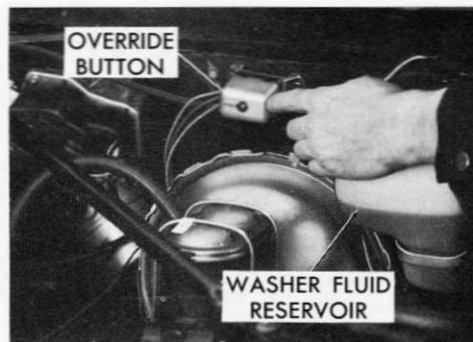

FIG. 1-15: BELT INTERLOCK OVERRIDE BUTTON
- Open hood and press button on manual override switch labeled "START", mounted on bright orange support at rear of engine compartment on driver's side, Fig. 1-15.